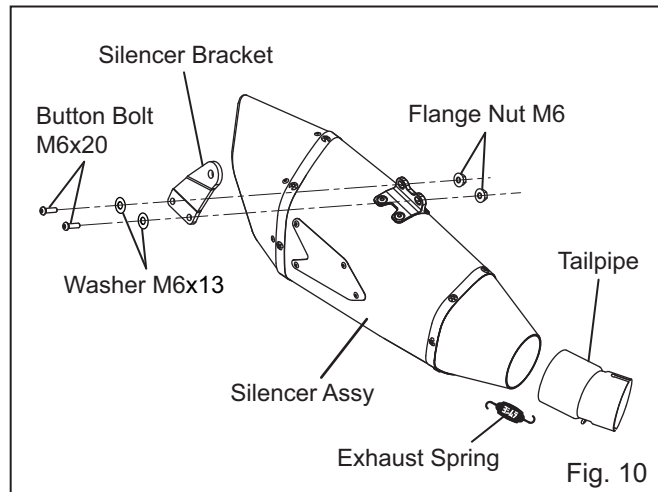

Fig. 10
- 18) Replace Silencer Bracket supplied in the Slip-on set to the one from Optional Exhaust Pipe, and mount it on Silencer assy with 2 of each Button Bolt M6x20, Washer M6x16 and Flange Nut M6 (See Fig. 10). Tighten the bolts by hand only at this stage.